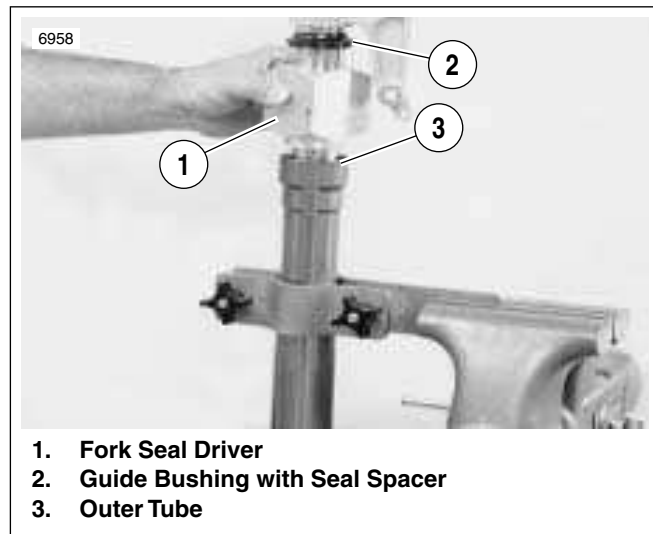

Figure 2-61. Fork Seal Driver
7. Move and tape or tie the dust seal (13) and stopper ring (12) out of the way.
8. Using FORK SEAL DRIVER (Part No. B-43721), drive the guide bushing (9) with the seal spacer (10) and oil seal (11) into position in the outer tube (4). See Figure 2-61.